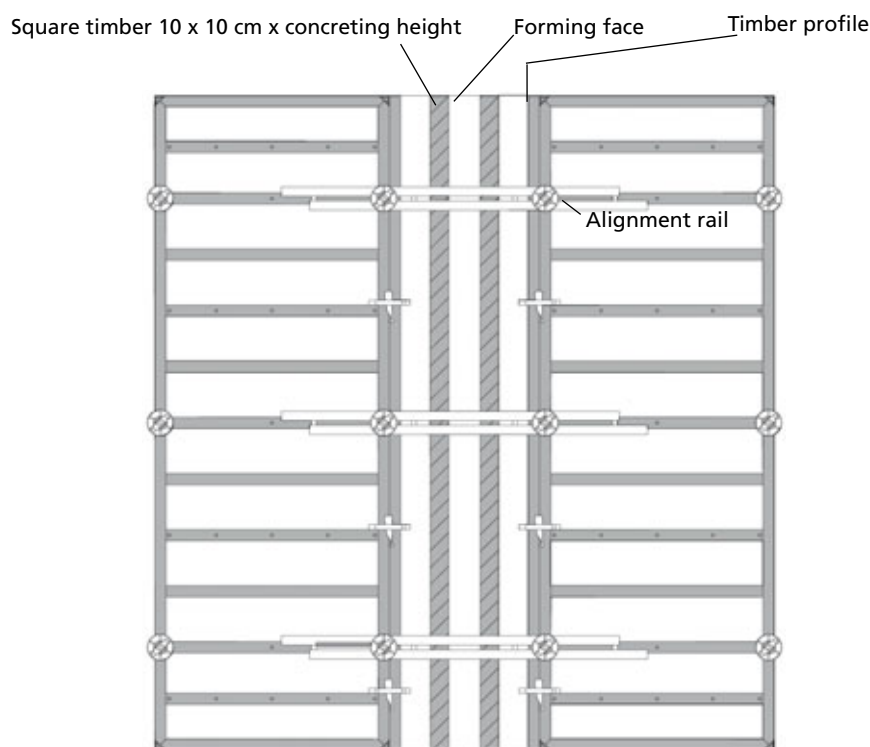

Fig. 25.1 Alignment rails at tie hole elevation
The maximum filler width (X) for the bracing at tie hole elevation (Fig. 25.1 and 25.2) is determined depending on the admissible fresh concrete pressure and the type of alignment, see table 25.3
When compensating gaps near outside corners or stop ends, the vertical tensile force must be taken into consideration. In this case, fasten the alignment rail with flange screws on both sides of the filler at tie hole elevation (Fig. 25.1).